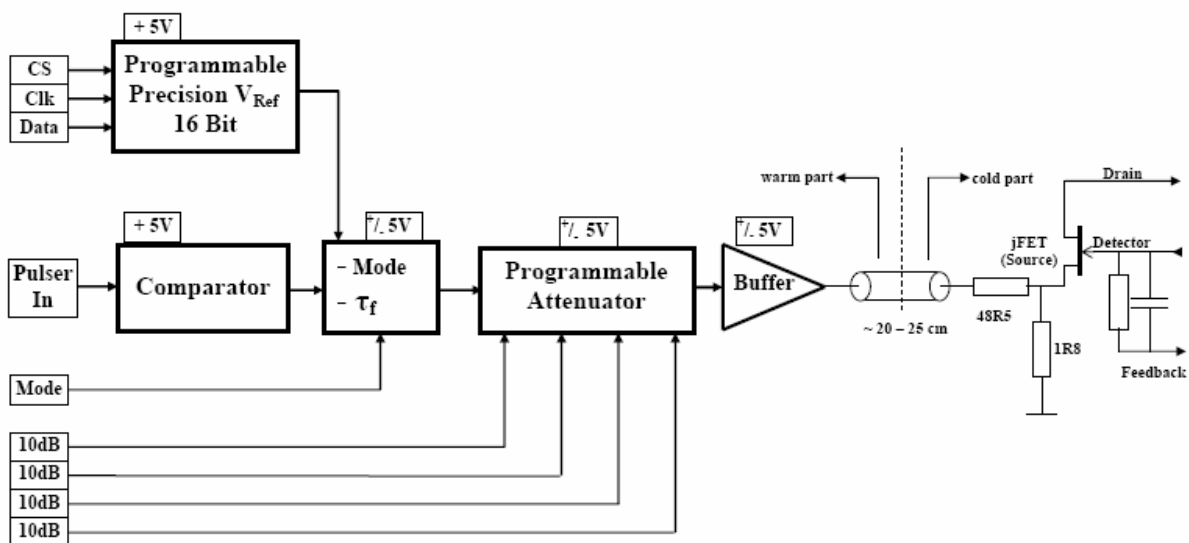

Fig. 6. Block diagram of the Programmable Pulser.
The Programmable Pulser (PP) is installed in a side of the core preamplifier board. It is a precision pulse generator designed to test the stability and linearity of the system, as well as to estimate the resolution of the segments. The output signal of PP is dc coupled to the source pin of the core j_FET through a resistor divider consisting of a 48.5 Ohm resistor and a grounded 1.8 Ohm resistor. Thereafter the signal reaches each of the 36 detector segments following the path Csg(core)_HV-Coupling-Capacitor_Core-to-segment-bulk-capacitance. A block diagram of the PP is shown in Fig. 6.